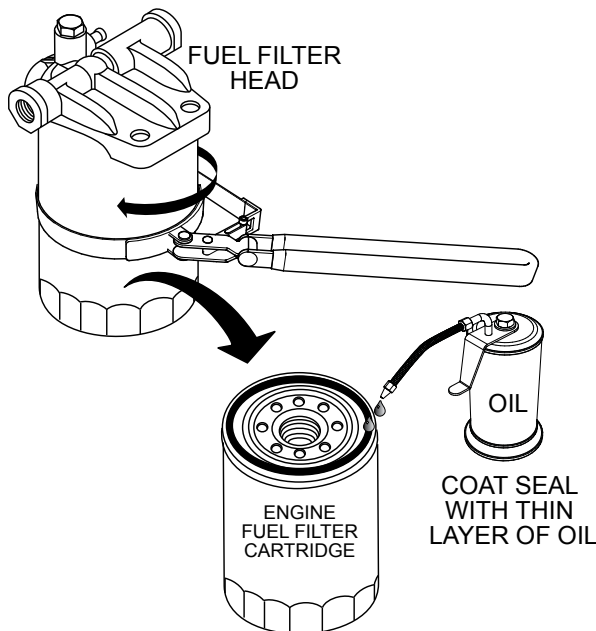

Figure 56. Fuel Filter Removal
2. Using an oil filter wrench (Figure 56), remove fuel filter.